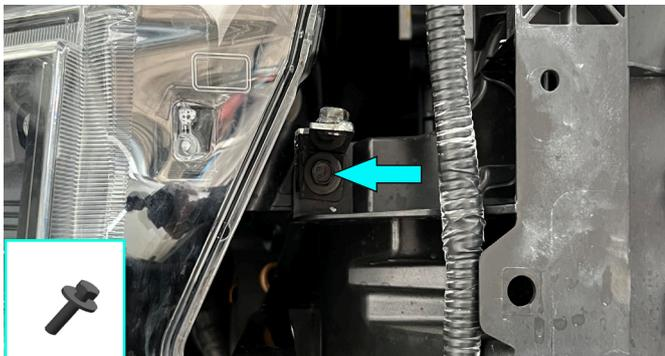

Fig.38
38. Install brackets for light and grille plug (item 5) as shown in fig. 38. Fix it using bolts M6x20 and washers 6 (item C, H).